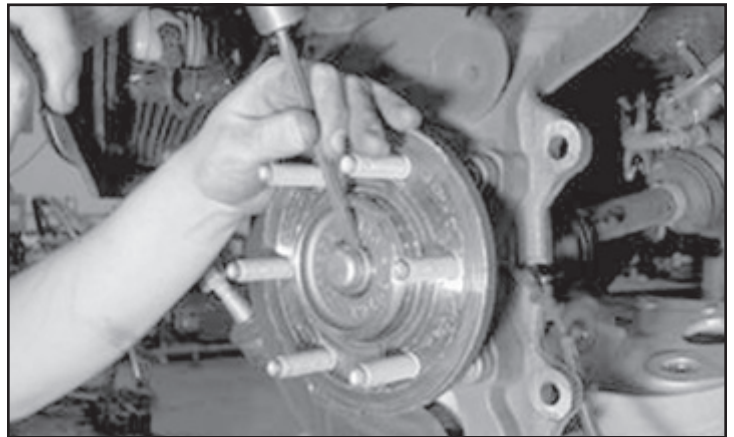

FIGURE 2 - STEP 6
6. Carefully remove the dust cap covering the hub assembly nut. Remove the C.V. bearing nut and save the nut and dust cap. **SEE FIGURE 2**